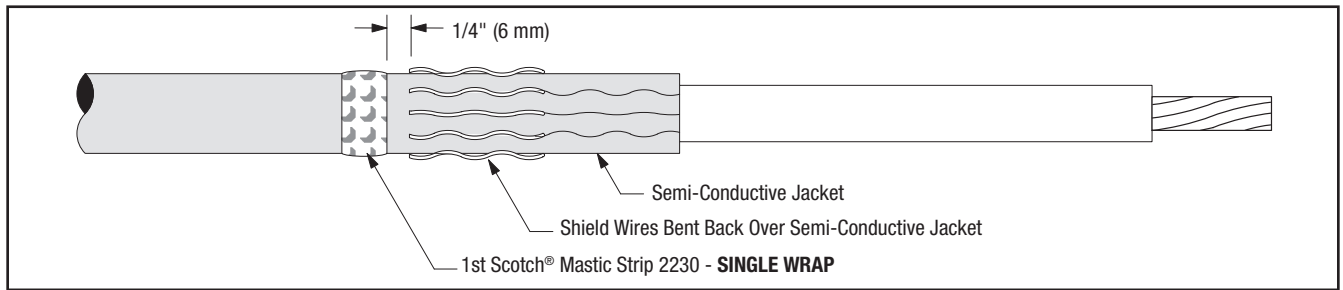

Figure 19
13.1 Select a Scotch® Mastic Strip 2230 from kit and remove white release liners. Using light tension apply a **SINGLE WRAP** of mastic around the cable semi-conductive jacket 1/4" (6 mm) from shield wires (Figure 19). Cut off excess.